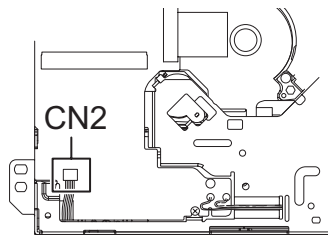

Fig.4
(5) From the bottom side, disconnect the connector wire from Top cover assembly connected to connector **CN2** of the Front end board. (See Fig.4)